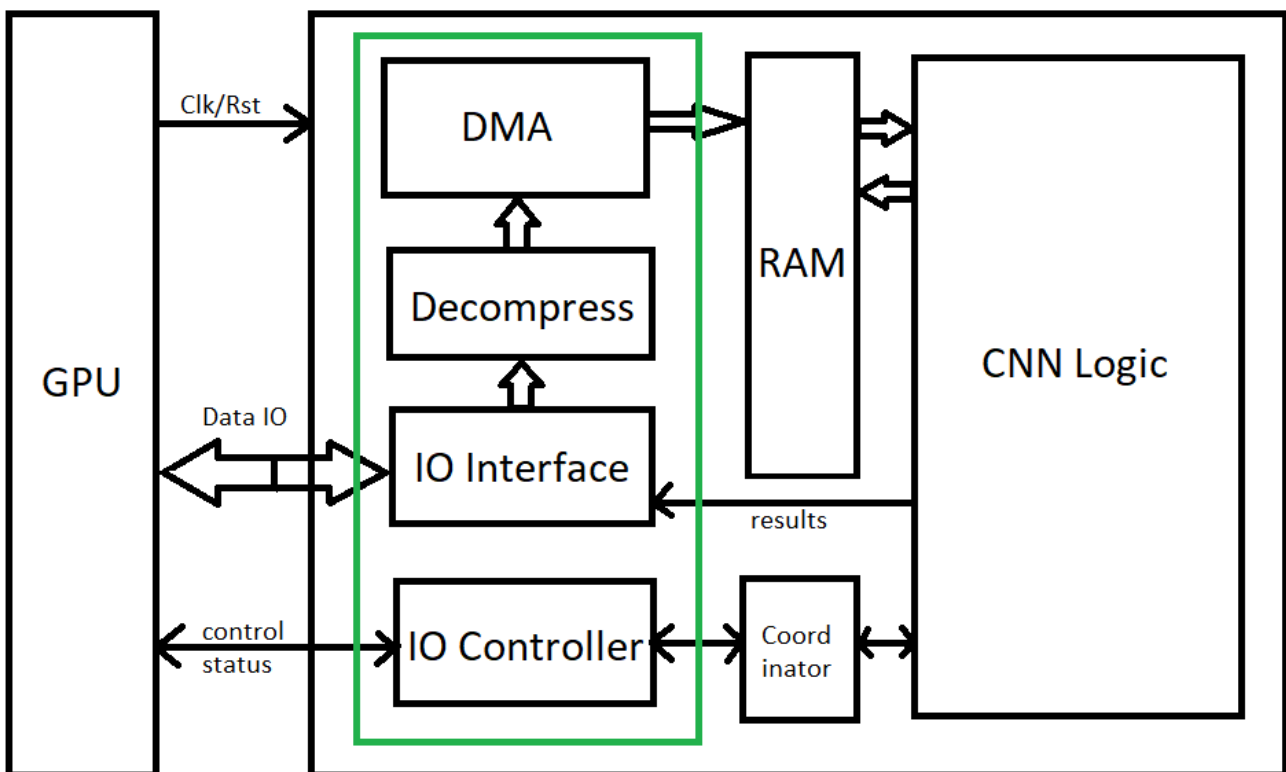

Figure 2: A simplified system design
**You are required to build a detailed hardware design for the I/O module & integrate your module with the rest of the bigger team.** The system is built for sending/receiving data over a 16-bit bus interface with the CPU as shown in figure 2 (IO module is the green box).